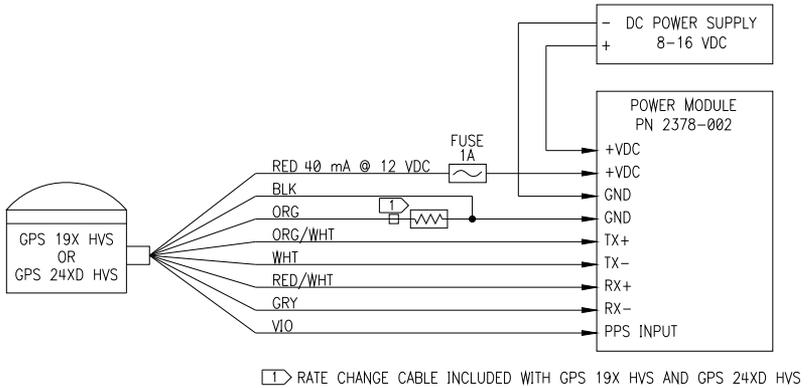

FIGURE 9-6: Garmin GPS Models 19x-HVS and 24xd-HVS Wiring Diagram
- If using the Garmin GPS 24xd HVS or GPS 19x HVS, ensure that its Rate Change Cable is installed per Figure 9-6. The function of the Rate Change Cable is to set the GPS default baud rate to 4800 and serial data rate to 1Hz. When the Rate Change Cable is installed, the GPS 24xd HVS or GPS 19x HVS defaults to the same baud rate and serial data rate as the GPS 17x and GPS 16x.